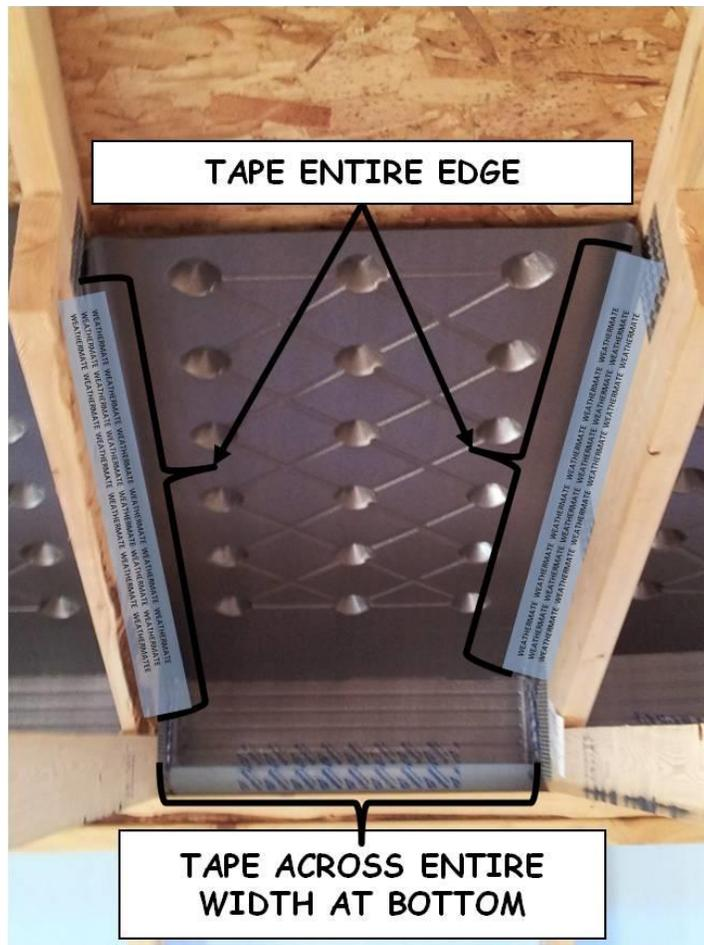

Figure 10-2. Proper Vent Installation.
3. Staple (three per side) the sides of the vent to the trusses and tape the entire width of the bottom of the flap to the foamboard and the entire length of the two sides to the trusses using Weathermate™ Construction tape, as shown in Figure 10-2.